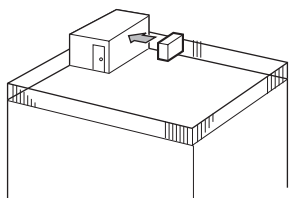

Fig. 2-3
- ① Face the air outlet towards the nearest available wall about 35 cm away from the wall. (Fig. 2-3)